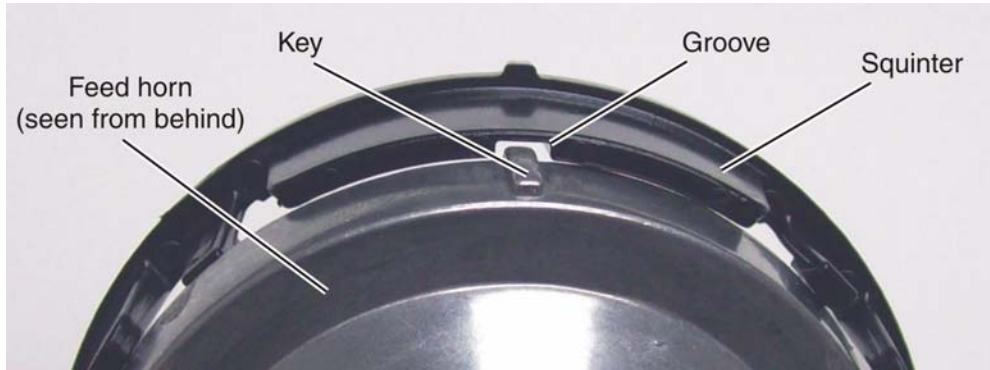

Figure 11: Attaching squinter types B and C
- a. To attach squinter types B and C, place the squinter on the feed horn, making sure that the four keys around the perimeter of the feed horn fit inside the corresponding grooves on the inside edge of the squinter, as shown in Figure 11.